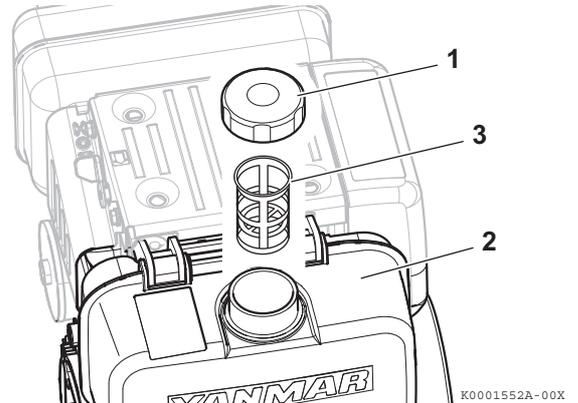

Figure 6
1. Clean the area around the fuel cap (Figure 6, (1)).
2. Remove the fuel cap (Figure 6, (1)) from the fuel tank (Figure 6, (2)).
3. Lift out the inlet fuel screen (Figure 6, (3)).
5. Install the inlet fuel screen (Figure 6, (3)).
6. Replace the fuel cap (Figure 6, (1)) and hand tighten. Overtightening the fuel cap will damage it.